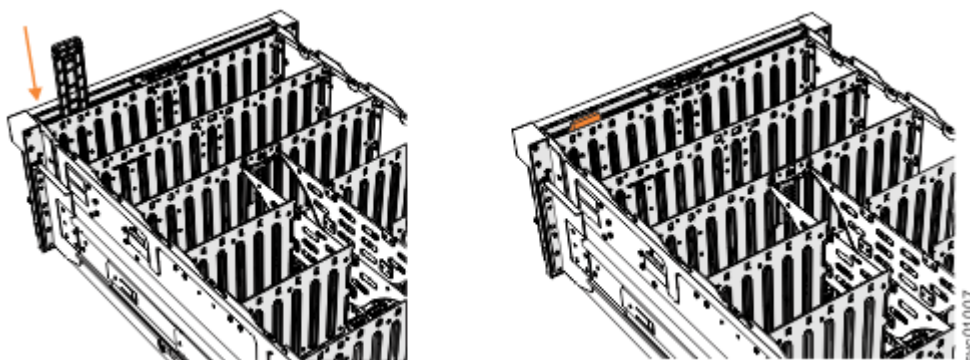

Figure 109. Installing the display panel assembly
2. Carefully align the display panel assembly in the slot at the front of the expansion enclosure, as shown in Figure 109 on page 105.